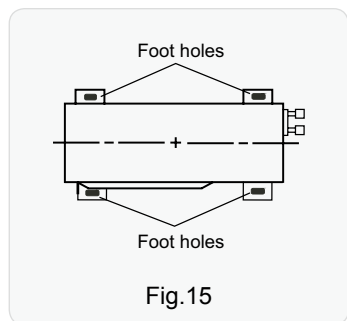

Fig.15
- (1) Place the outdoor unit on the support.
- (2) Fix the foot holes of outdoor unit with bolts.
- (As show in Fig.15)